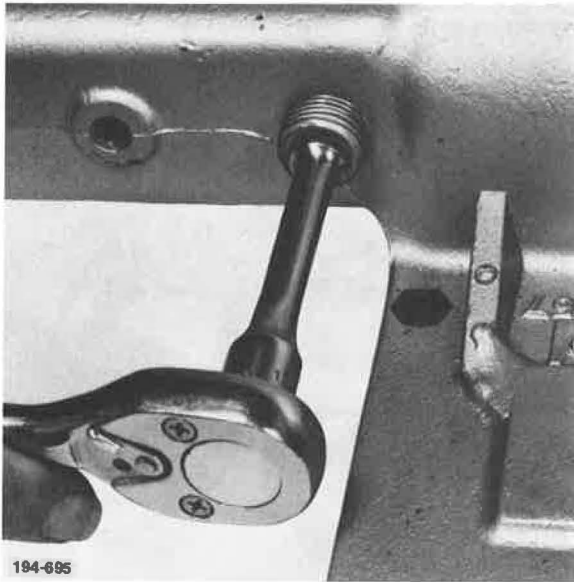

Figure 175. Removing Plug
7. Remove interlock plunger plug from air shift cover. See Figure 175.